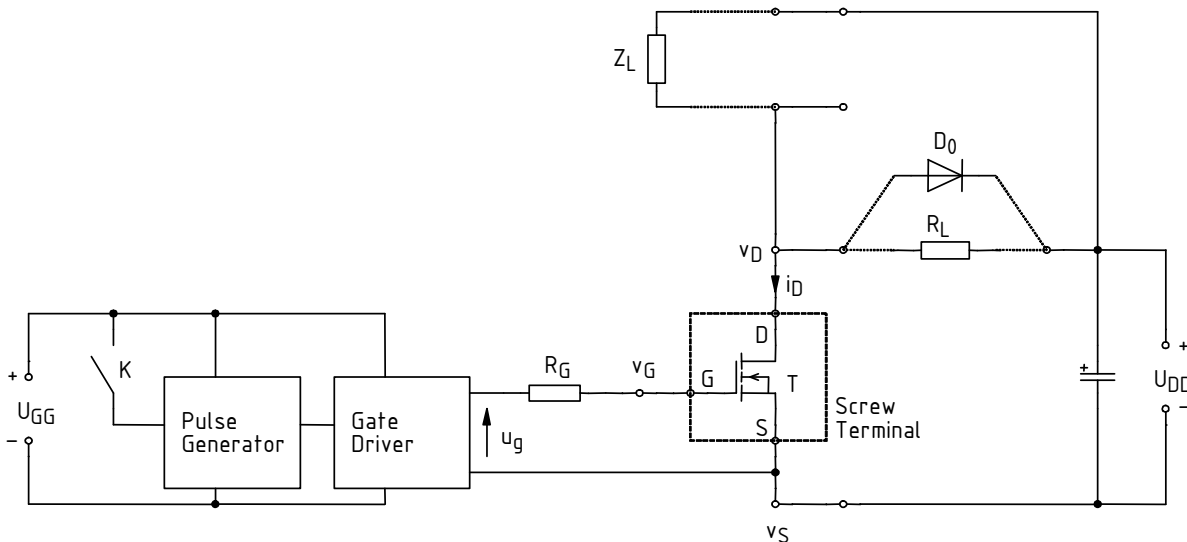

Fig. 2. Low-side switch experimental circuit schematic
The schematic of the experimental circuit, which is a chopper using the low-side switch topology, is presented in Fig. 2. The points marked in the schematic are wired to sockets on the front panel. Moreover, points G, D and S are wired to the blue screw terminal, allowing a transistor T to be inserted in the circuit. The IRF540N MOSFET will be investigated in this exercise. A resistive (R_L) or an inductive (Z_L) load will be connected through front panel sockets specified further in this manual.
The transistor is driven from a built-in generator of a pulse wave whose frequency $f_p = 10$ kHz and duty cycle $D = 0.5$. Between the generator and the transistor's gate are found a IR2117 gate driver and a gate resistor whose resistance $R_G \sim 100 \Omega$. The amplitude of the pulsed gate control voltage is approximately equal to the supply voltage of the control circuit, $U_{GG} = 10$ V. The generator is started by pressing one of the two buttons on the front panel (switch K in Fig. 2): the red one, to switch it on continuously, or the green one, to switch it on just for the time the button is depressed. The generator's operation is indicated by a yellow LED.
The circuit enables measurements of inter-terminal voltages and drain current of the device under investigation. Voltage measurements are performed using voltage probes appropriately connected to banana sockets labelled as v_S , v_G and v_D in Fig. 2. Banana connectors with leads that enable a probe to be attached are provided for this purpose. These connectors may be freely moved depending on present needs.
Current measurements are performed by clamping a current probe around the wire fragment led above the front panel and marked as i_D in Fig. 2. The arrow on the probe's casing indicates the direction assumed to be positive. The probe should be so oriented that this direction is in accordance with the true one.
3. Mount the transistor under investigation in the three-pin terminal block on the circuit's panel, according to the circuit schematic (compare Fig. 2 to the drawing on the panel) and to this transistor's terminal arrangement shown in the TO-220 package data sheet which is attached to this manual. Tighten all the three mounting screws.